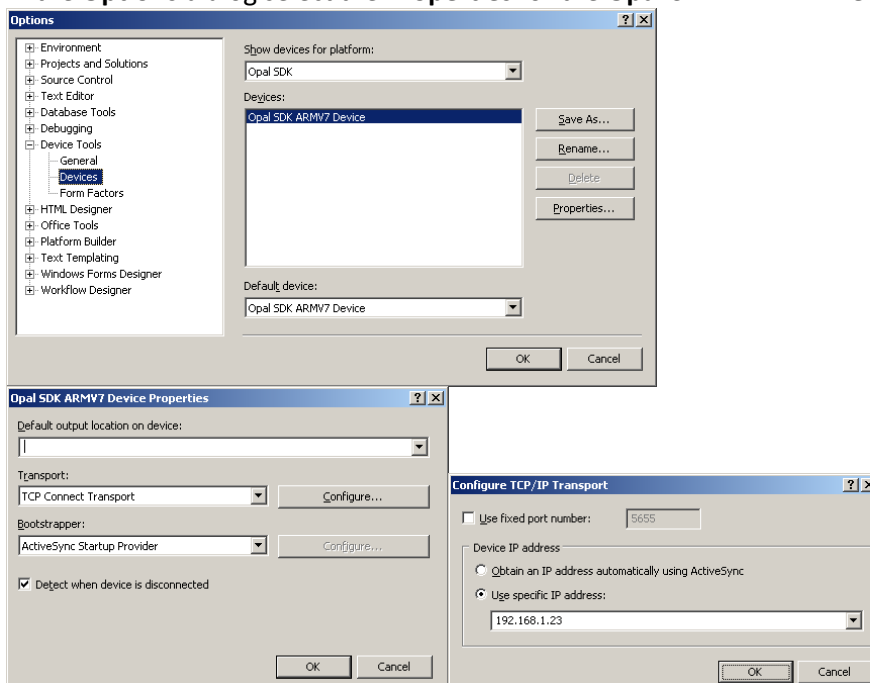

Figure 3: Configuring Connectivity Options
- 4) In the **Options** dialog select the **Properties** for the **Opal SDK ARMV4I Device** (see Figure 3)